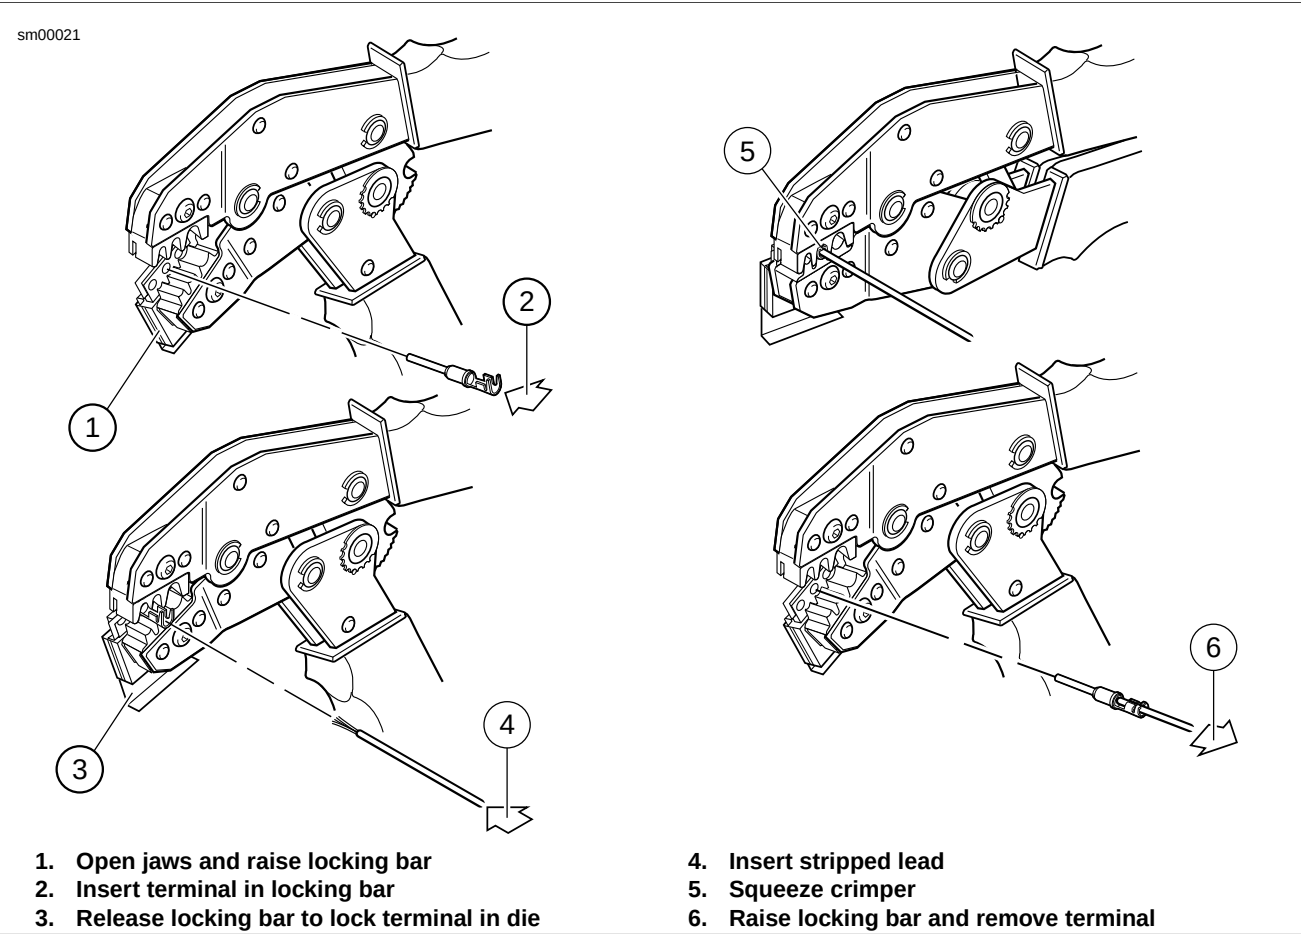

Figure A-20. Crimping a Deutsch Standard Terminal
1. See Figure A-20. Squeeze the handles of the DEUTSCH TERMINAL CRIMP TOOL (Part No. HD-39965-A) to open the jaws. Push the locking bar (1) up.
2. Insert (2) terminal (socket/pin) through hole of the locking bar, so that the rounded side of the contact barrel rests in the nest (concave split level area) with the crimp tails facing upward. To match the wire gauge to the crimp tool die, refer to Table A-3.